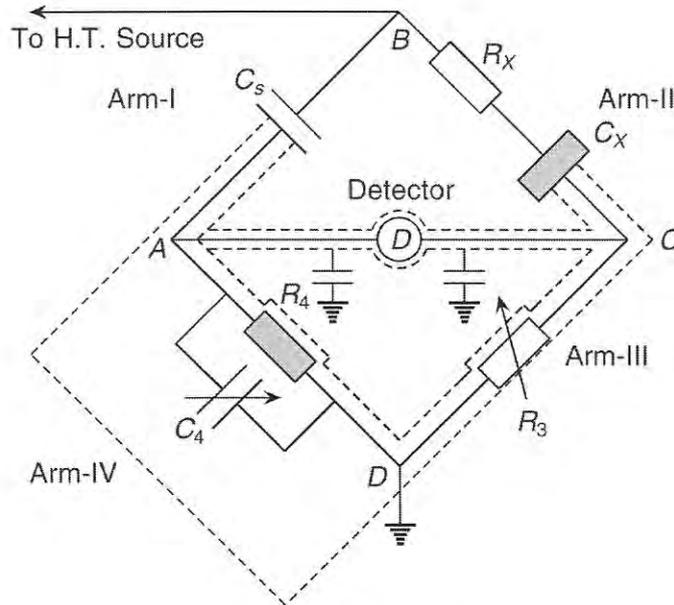

Figure Q3(c)
- (iii) Identify **two (2)** scenarios in which resonance may be utilised for a benefit. (4 marks)
- (iii) Explain **two (2)** purposes for the need of impulse generator in the high voltage engineering. (4 marks)
- (a) The salt fog test usually being used to verify the durability of the insulation material in withstanding severe electrical stresses. The test can represent the acceleration aging processes that typically occur at outdoor environment over the years in service. Propose **one (1)** comprehensive experiment setup and the working concept of the test. (7 marks)
- (c) A Schering bridge as in **Figure Q3(c)** is used to measure the capacitance and dissipation factor of insulation system in power transformer. The bridge achieved balance at the following condition: